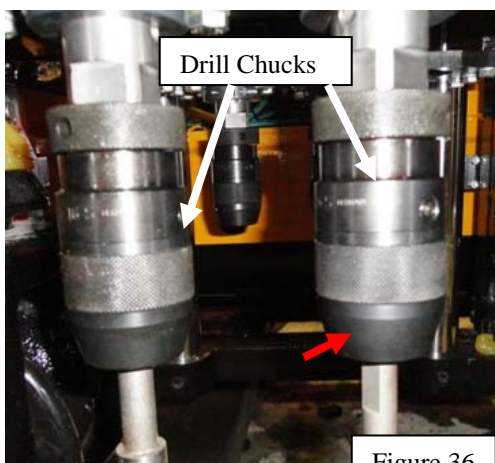

Figure 36
4. Turn off engine and install the reflective tap on the drill chuck for the drill motor being tested (Figure 36).